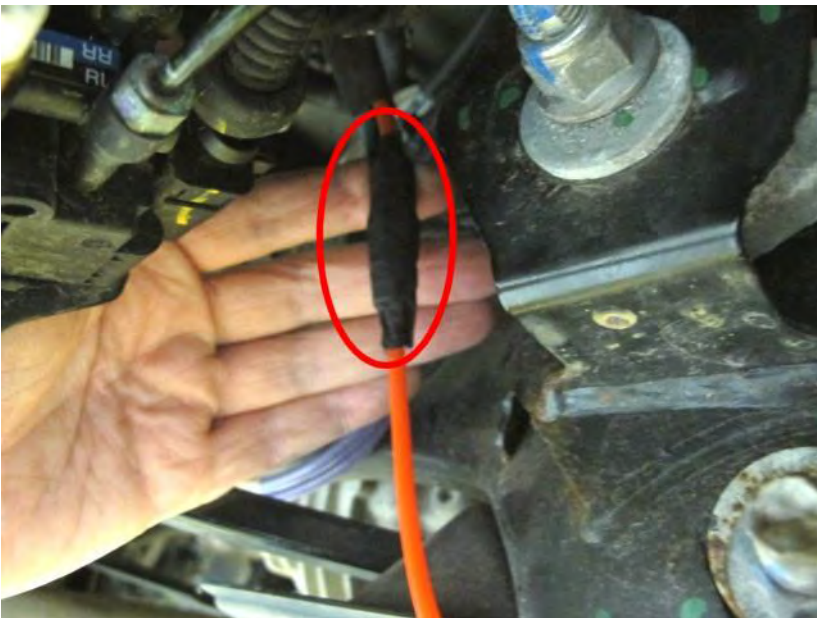

Figure 9
12) Fit rubber insulation or suitable cloth insulation tape around the connection (Figure 9)